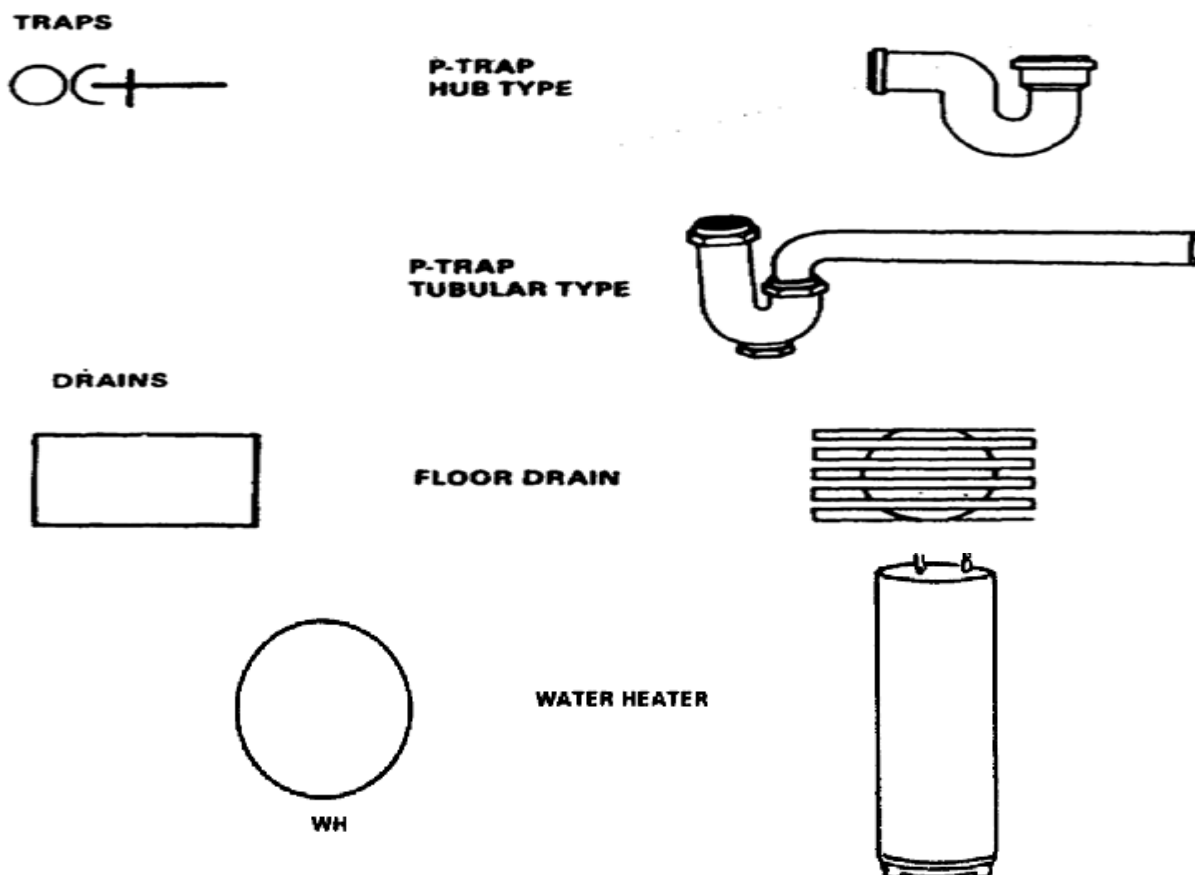

Figure 1.8 Device symbol
1.1.7 Devices symbol, See Figure 1.8